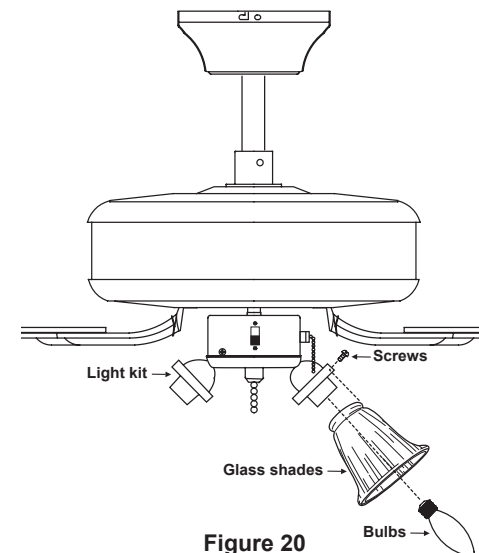

Figure 20
1. Insert the glass shades into the light kit with the thumb screws. (Fig. 20)
2. Install 40W candelabra bulbs (included). (Fig. 20)